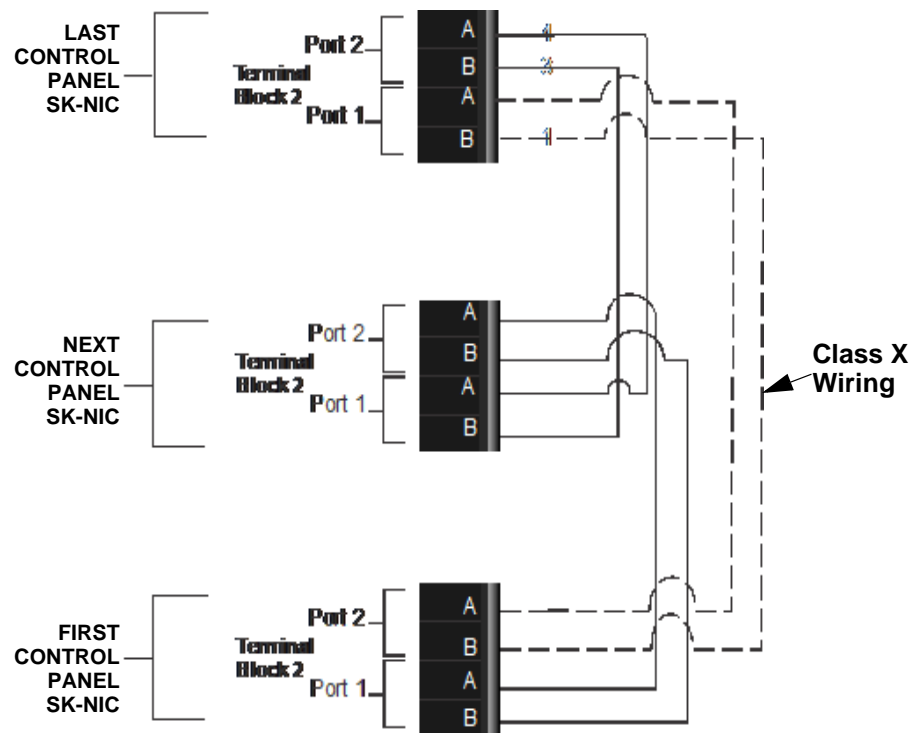
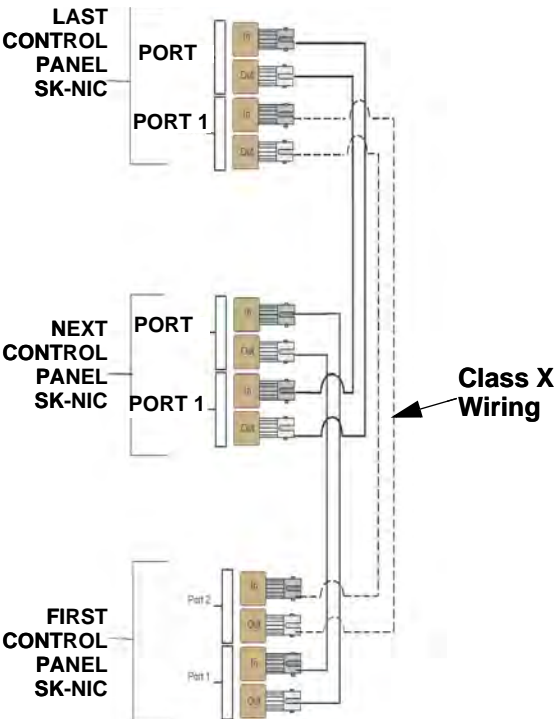
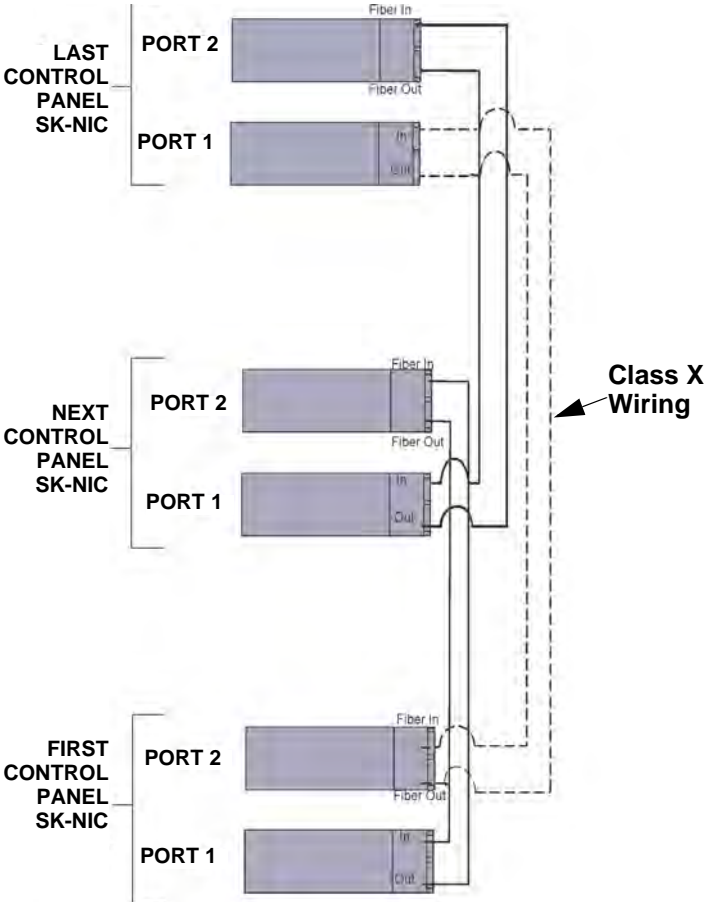
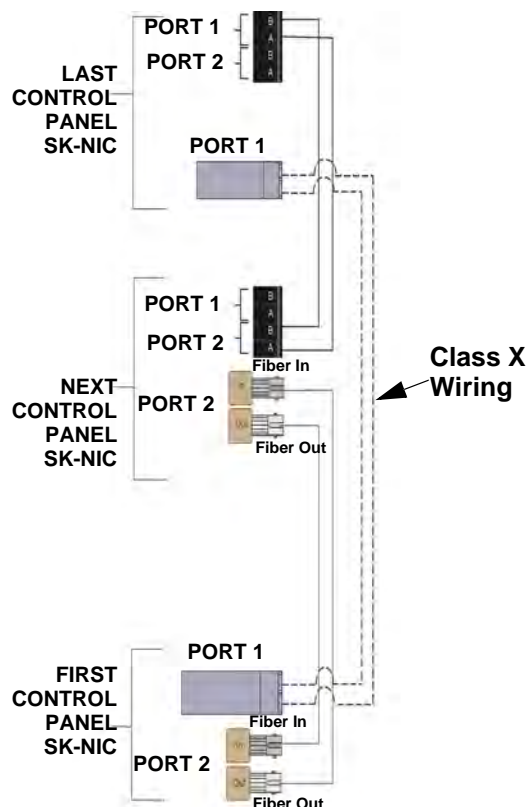

Figure 5.6 Twisted-Pair Wiring Configuration
Figure 5.7 Fiber-Optic Wiring Example
Figure 5.8 Fiber-Optic Wiring Single-Mode Example
Figure 5.9 Twisted-Pair and Fiber-Optic Combination Wiring Example
5. Based on the type of data medium chosen, run the twisted pair wiring/fiber optic cable to the next SK-NIC using a Class B or Class X wiring method. A combination of both medium types can be used. See Figure 5.6, Figure 5.7, Figure 5.8, and Figure 5.9 for the SK-NIC wiring examples.
Unshielded twisted-pair wiring between multiple panels is shown in Figure 5.6. Class X wiring is shown with a dotted line.
Fiber-optic cable between multiple panels is shown in Figure 5.7. Class X is shown with a dotted line.
A mixture of fiber-optic cable and twisted-pair wiring between multiple panels is shown in Figure 5.9. Class X cabling is shown with a dotted line.